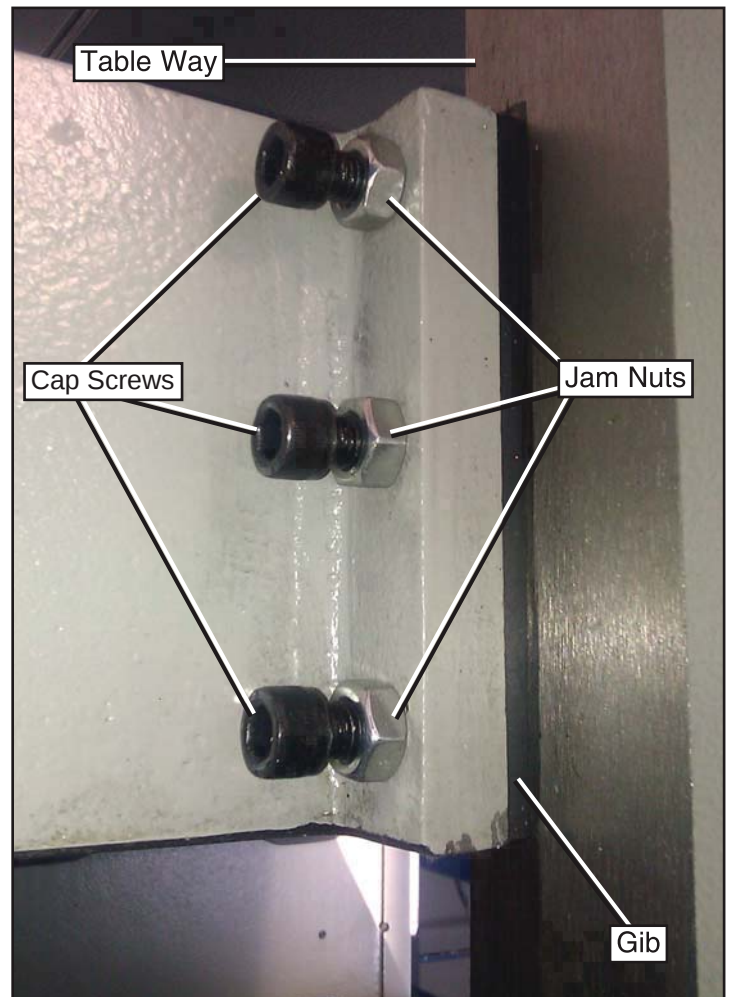

Figure 59. Table gib and way.
1. Loosen the gib jam nuts on the table (see **Figure 59**).